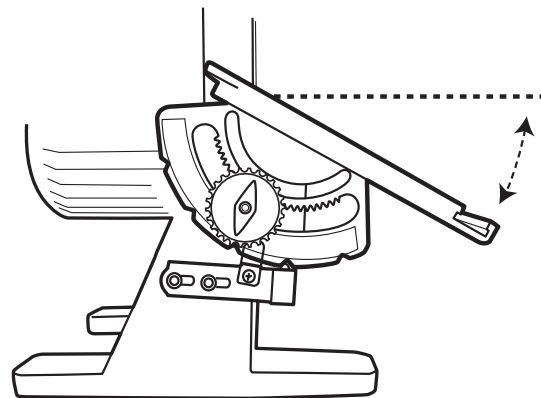
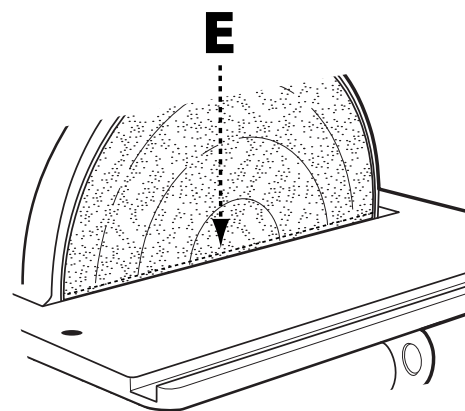

FIGURE 9
FIGURE 10
⚠ WARNING: Regardless of which position the table is tilted, the table edge (E), shown in Figure 10, must be no more than 1/16" from the sanding disc to avoid trapping the work or fingers between the table and sanding disc. To adjust the position of the table relative to the sanding disc, see "adjusting miter gauge slot alignment" on page 11.
⚠ WARNING: We suggest that all bevel sanding applications be performed with the table tilted down as shown in Figure 9; however, if there is a need to tilt the table up, the workpiece must be securely fastened or clamped to a fixture or jig to prevent the workpiece from being torn from hands and becoming trapped between the table and sanding disc. See Figure 10.